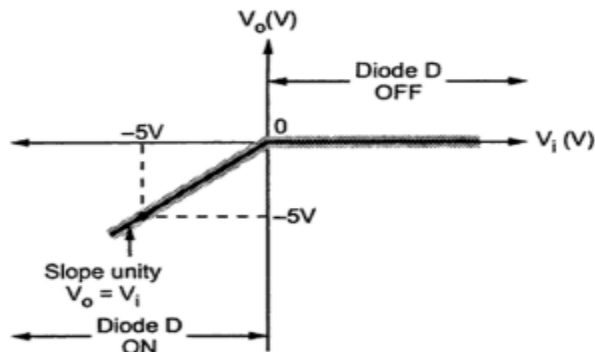

Fig. 1.49 Transfer characteristics with Ideal diode
- The transfer characteristics are shown in the Fig. 1.49.